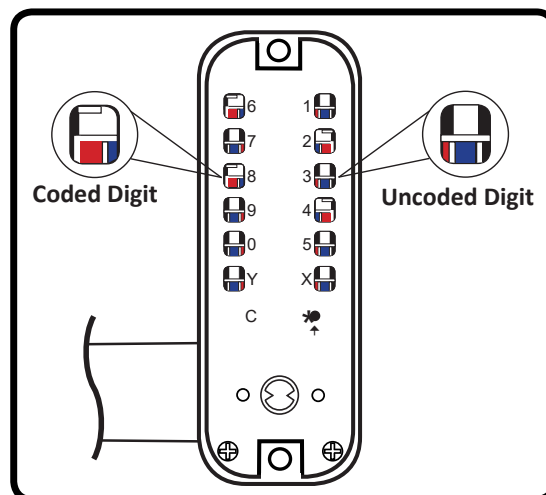

Fig.15
4. As per the example diagram **Fig.15** below, you will see that the red lines on digits 2, 4, 6 and 8 are closest to the centre of the porthole and is therefore the code. All the other holes will show a blue line - these are not in the code.